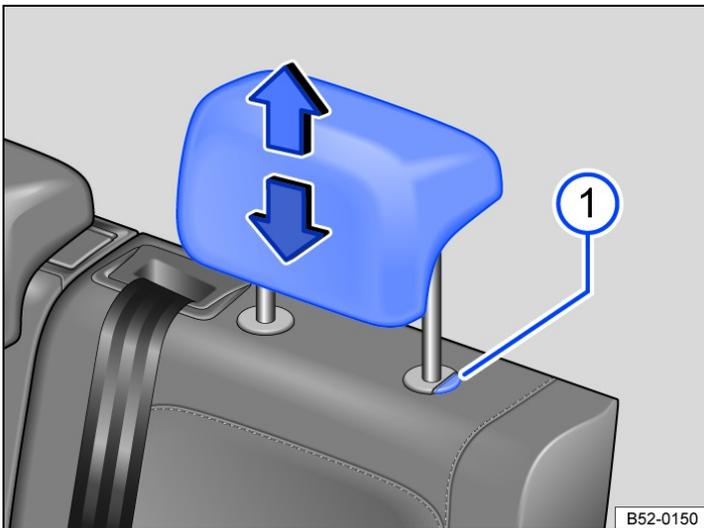

Fig. 2 Rear head restraint: adjusting.
— Push the head restraint up or down in the direction of the arrows while pressing the button → Fig. 1 ① or → Fig. 2 ① if necessary.